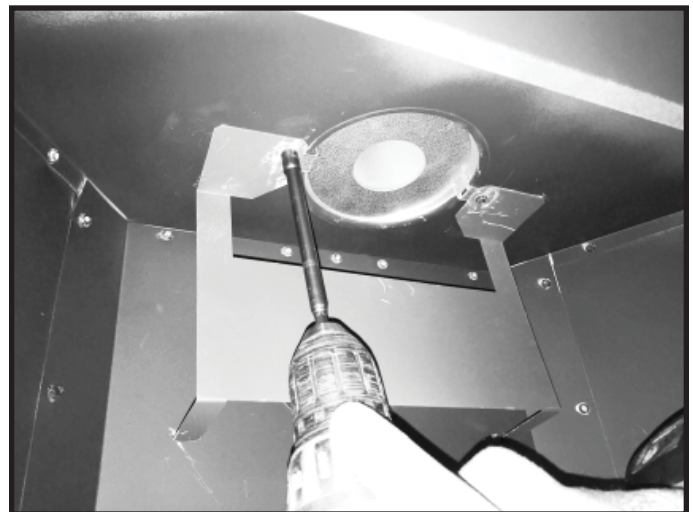

Figure 4.17 31-60 Ft. Vertical Run
- The top vent flue baffle will be turned to install inside for 31-60 ft. vertical runs of vent. See Figure 4.17.